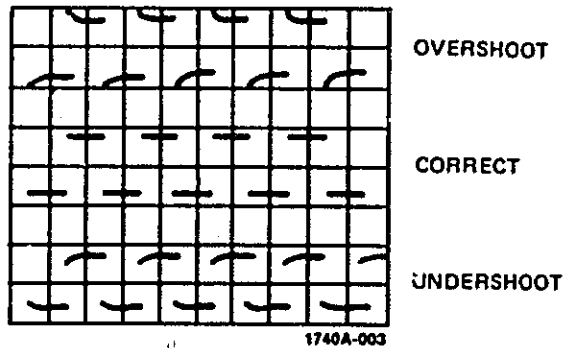

Figure 3-2. Probe Compensation
- b. Connect divider probe cable to channel A INPUT ⑳ connector.
- g. Adjust TRIGGER LEVEL ⑩ for stable display.
- h. Adjust divider probe compensation for correct display (see figure 3-2).